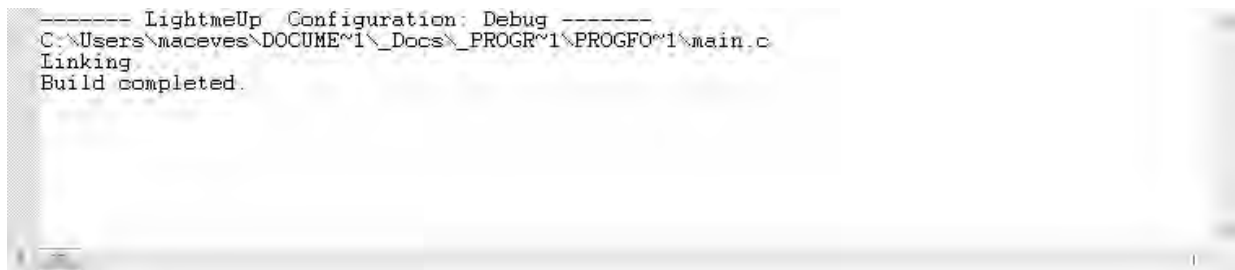

Figure 15. Build Completed Message
14. When the rebuild is complete, a `Build Complete` message will appear in the Message Window at the bottom of the ZDSII screen; see Figure 15.